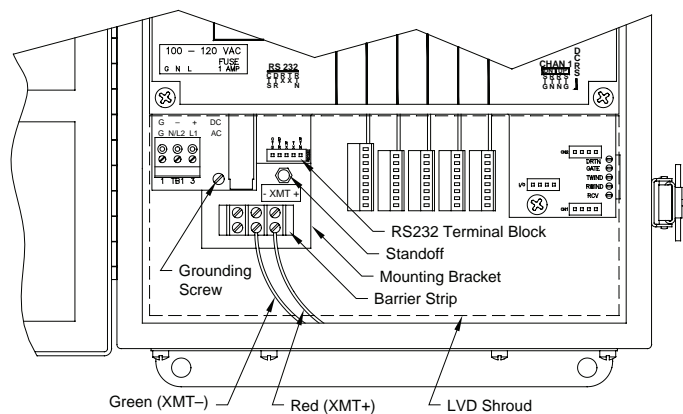

Figure 9: Interface converter mounting
A special bracket containing the serial interface converter and a three-terminal barrier strip is mounted inside the model GF868, just below the RS232 terminal block (see figure 9). The standard RS232 terminal block is wired to the input of the serial interface converter, and the RS-485 output of the serial interface converter is wired to the barrier strip.
Standard factory wiring of the RS485 serial interface is configured for point-to-point wiring. That is, a single model GF868 may be wired directly to a single personal computer. To connect the RS485 serial interface, refer to figure 9 and complete the following steps:
- 3. Remove the serial interface converter *mounting bracket* by removing the standoff located just below the RS232 terminal block and the grounding screw just to its left (see figure 9).